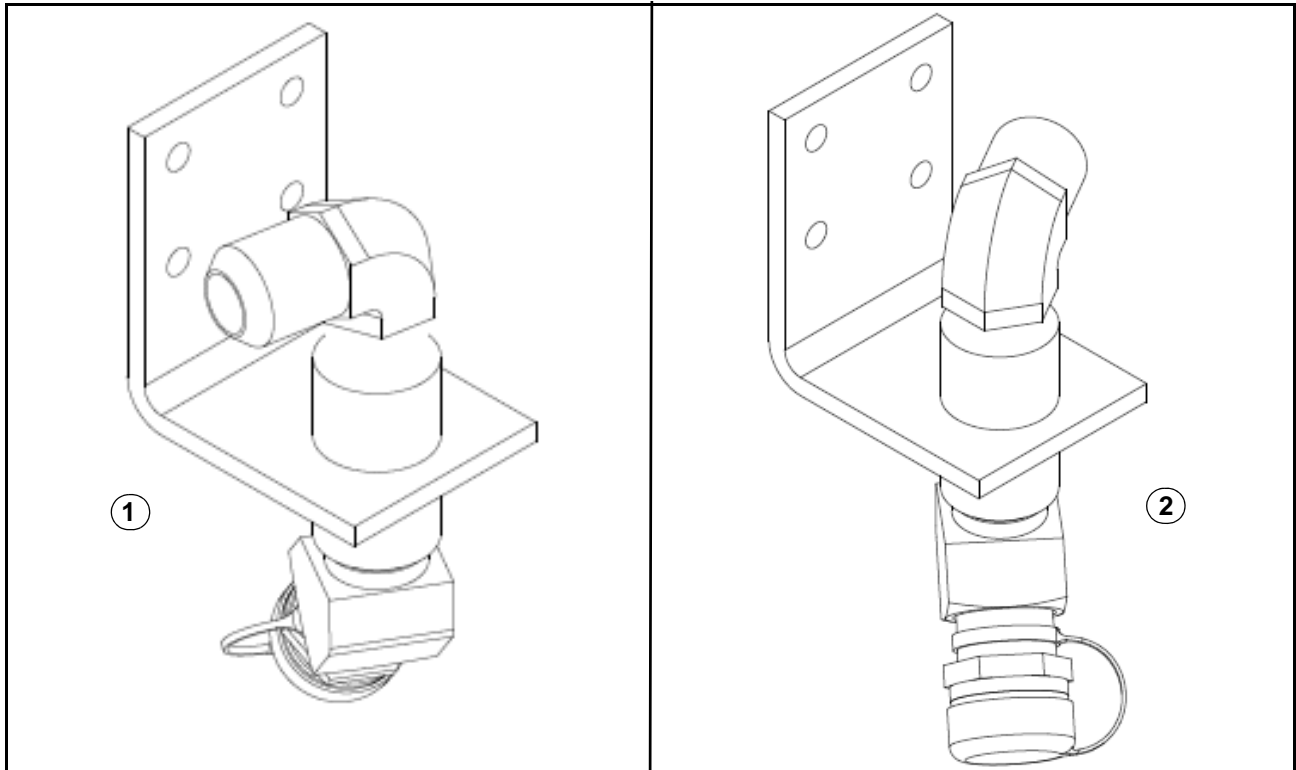

Figure 4. Bracket assembly fitting orientation.
The fittings will be orientated 180° opposite from the original routing to facilitate the bracket re-orientation (refer to Figure 4).
Item	Figure 4 Description
10. Apply a thin layer of airline pipe sealant to the external fitting threads, leaving three (3) threads bare.
11. Orient and install the nozzle assembly elbow and street elbow, hand tight, to the bracket as orientated shown as Item 2 in Figure 4.